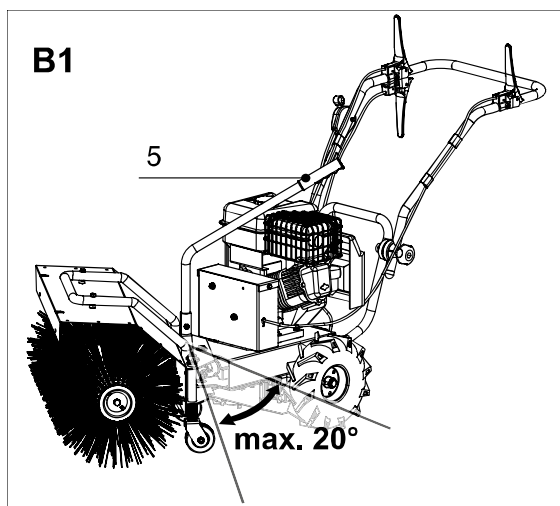

Fig. B1 Adjusting the sweeping angle
12.2 Adjusting the sweeping angle (Figure B1)